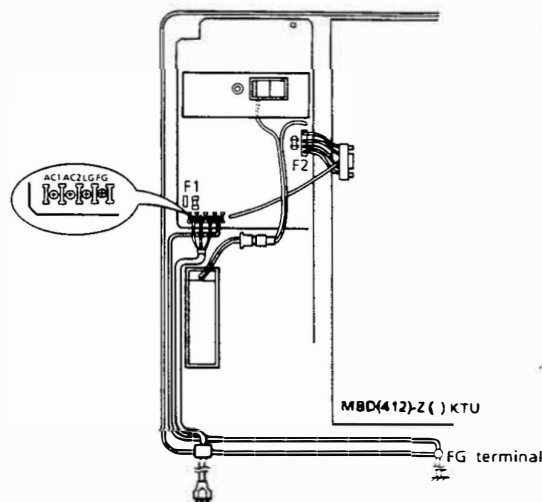

Figure 200-2 KSU Grounding
3. Where a ground other than circuit ground is used, a grounding terminal is provided on the PSZ-8-1 (in the KSU) as shown in Figure 200-2 KSU Grounding.